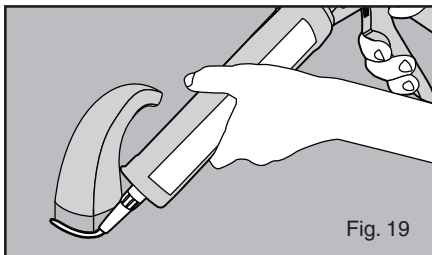

Fig. 19
20. **IMPORTANT** – Apply a bead of clear silicone caulk around the perimeter of the above counter spacer after it is secured to the countertop. (see figure 19)